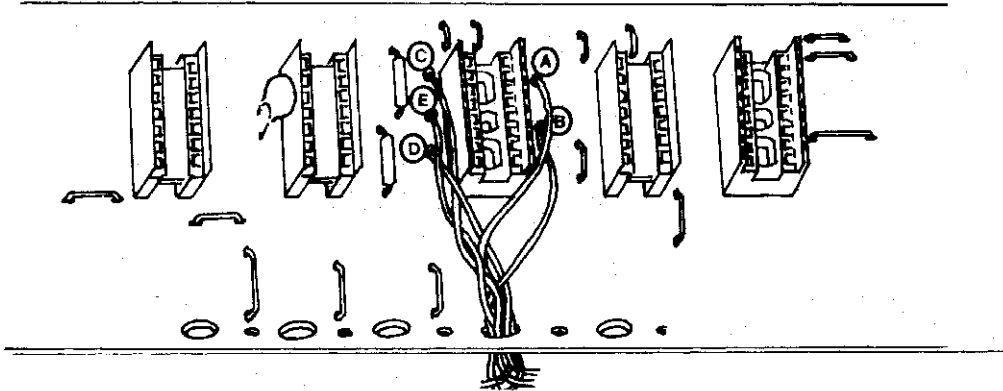

Figure 2: Wire Routing
- () Route all 5 of the wires installed above through the closest large hole in the edge of the encoder circuit board as shown in figure 2 below.